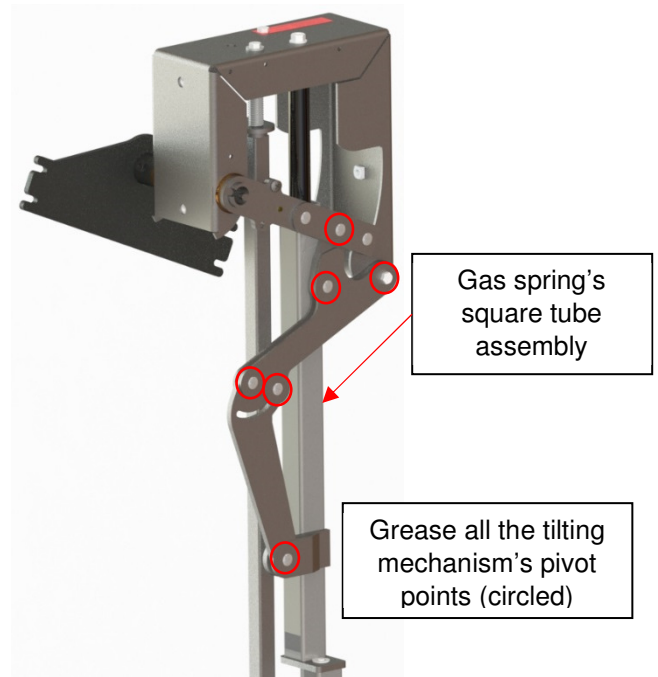
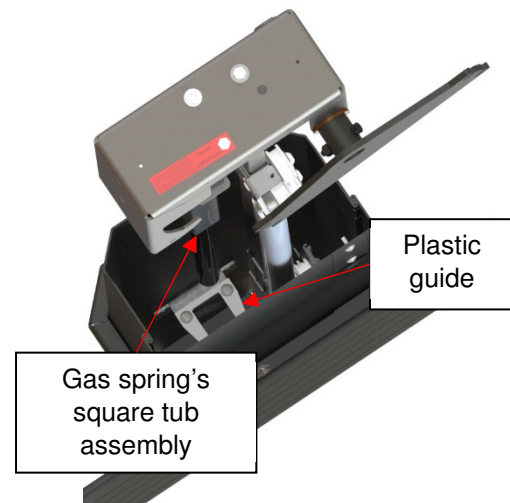
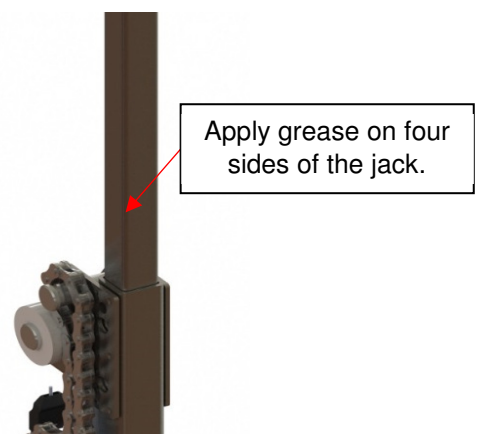

Figure 26
Figure 27
Figure 28
- 8) Ensure the gas spring's square tube assembly is out of the plastic guide. (Figure 26 & Figure 27)
- 10) Spray grease on all the sliding and mechanical components of jacks and on the pivot points of the tilting mechanism. (Figure 26, Figure 27 and Figure 28)
- 11) Using a small stepladder, spot the plastic guide inside the inner sleeve and guide the square tube assembly in it. (Figure 27)